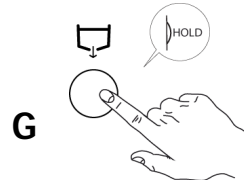

Fig.42
- 2- Hold button "I" drain water for the entire time necessary to drain out completely the water from the tank. (Fig.42)